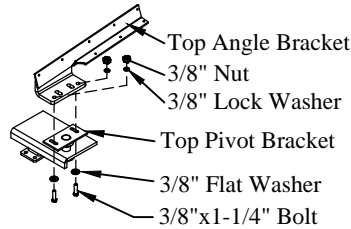

Figure 7: Top angle bracket.
5. **Attach** the top pivot bracket to the top angle bracket with the supplied 3/8" bolts, flat washers, lock washers, and nuts (Figure 7). Apply blue LockTite® Thread Locker or equal to the bolts before tightening.